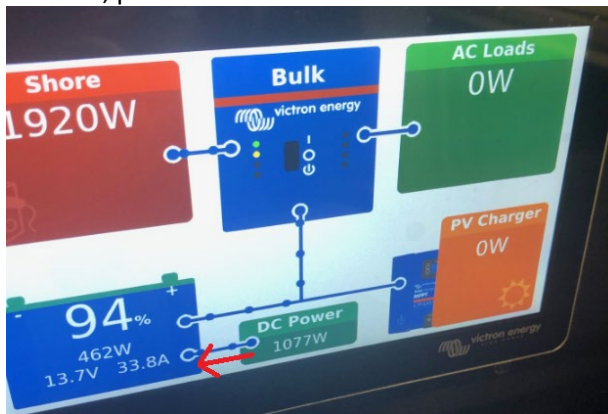

Figure 14
21. Hold the accelerator pedal to where RPMs are at 1200 or a little higher and check display screen. After a few seconds, power flow should move from DC Power to the battery. Figure 14